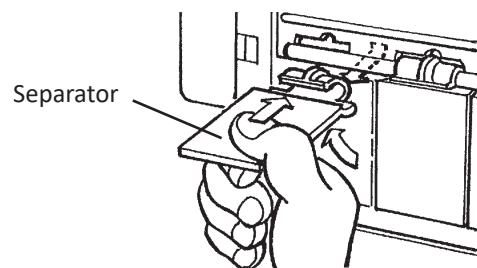

Fig. 41
- 3) Remove each separator by lifting it to the horizontal position and pushing it hard inward. See Fig. 41.